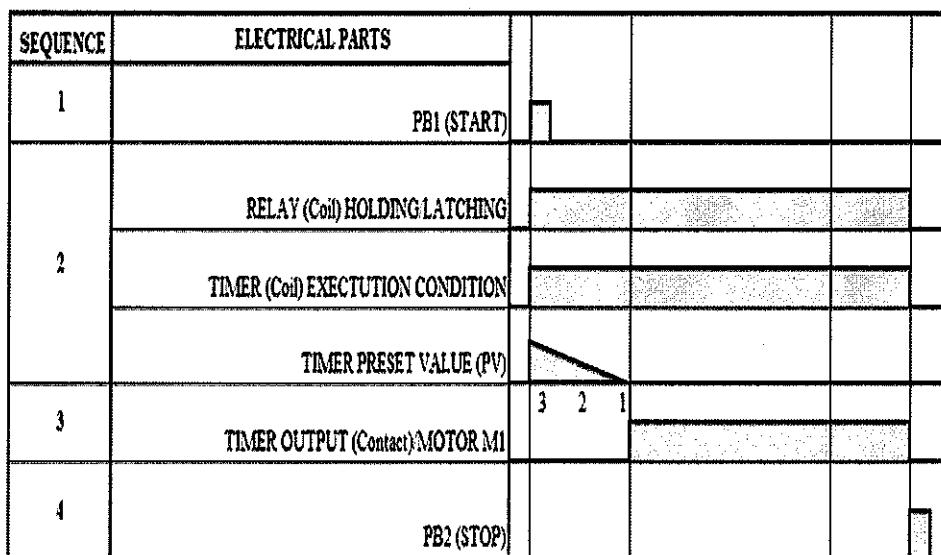

Figure A1c / Rajah A1c
- CLO 1 c) By referring to the sequence timing chart Figure A1c, draw the conventional control sequence (RLL/hardwired diagram) of this system.